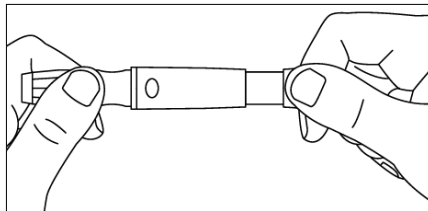

Fig 5.34
Step 6: Pull the cocking barrel back to set the lanceting device. A click may be heard. The meter is now loaded and ready for obtaining a drop fingertip blood (Ref Fig 5.34).